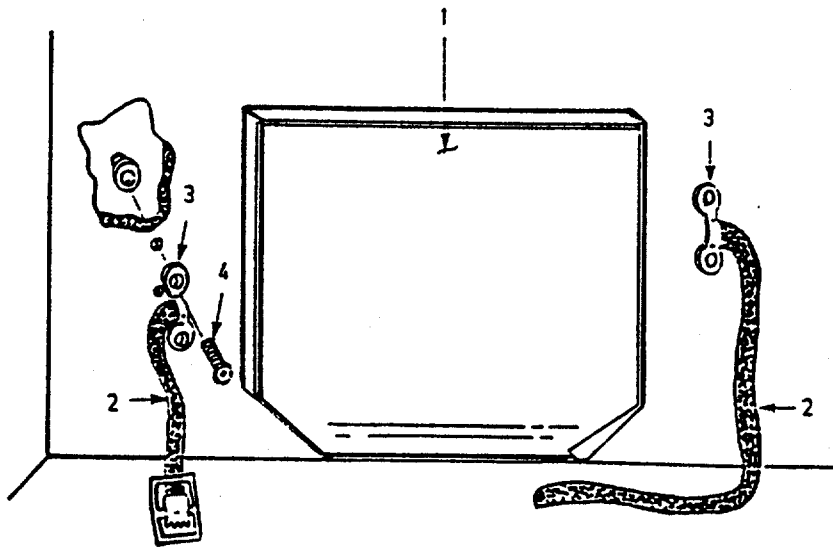
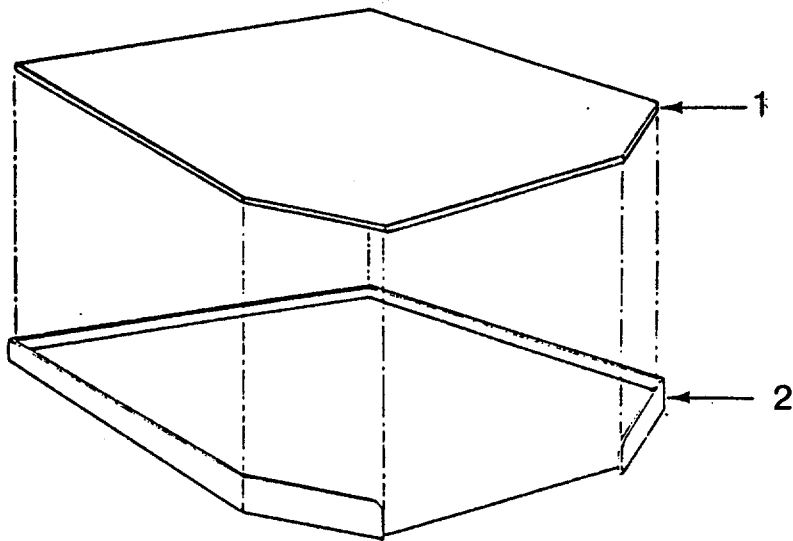

Figure 4-18. Rub-Up Board Assembly
Figure 4-19. Rub-up Board
a. Inspect. (See Figure 4-18.)
(1) Remove rub-up board (1). Inspect strap assembly webbing (2) for wear, frayed sewing, and decayed fabric.
(2) Inspect fastener loops (3) for secure mounting to wall.
(3) Remove board assembly. Inspect for burrs, sharp edges, and signs of rust or excessive dirt. Check for dents or cracks.
(4) Inspect rubber pad for damage and security.
b. Replace. (See Figure 4-18.)
(1) Remove fastener loop screws (4).
(2) Remove fastener loops (3) and strap assembly (2).
(3) Install fastener loops (3) into loops of strap assembly (2).
(4) Install and secure fastener loops (3) to wall partition with screws (4).
(5) Install and secure rub-up storage board (1) to wall with strap assembly (2).
c. Repair. (See Figure 4-19.)
(1) Remove dents in rub-up board (2) with hammer.
(2) Remove burrs from rub-up board (2).